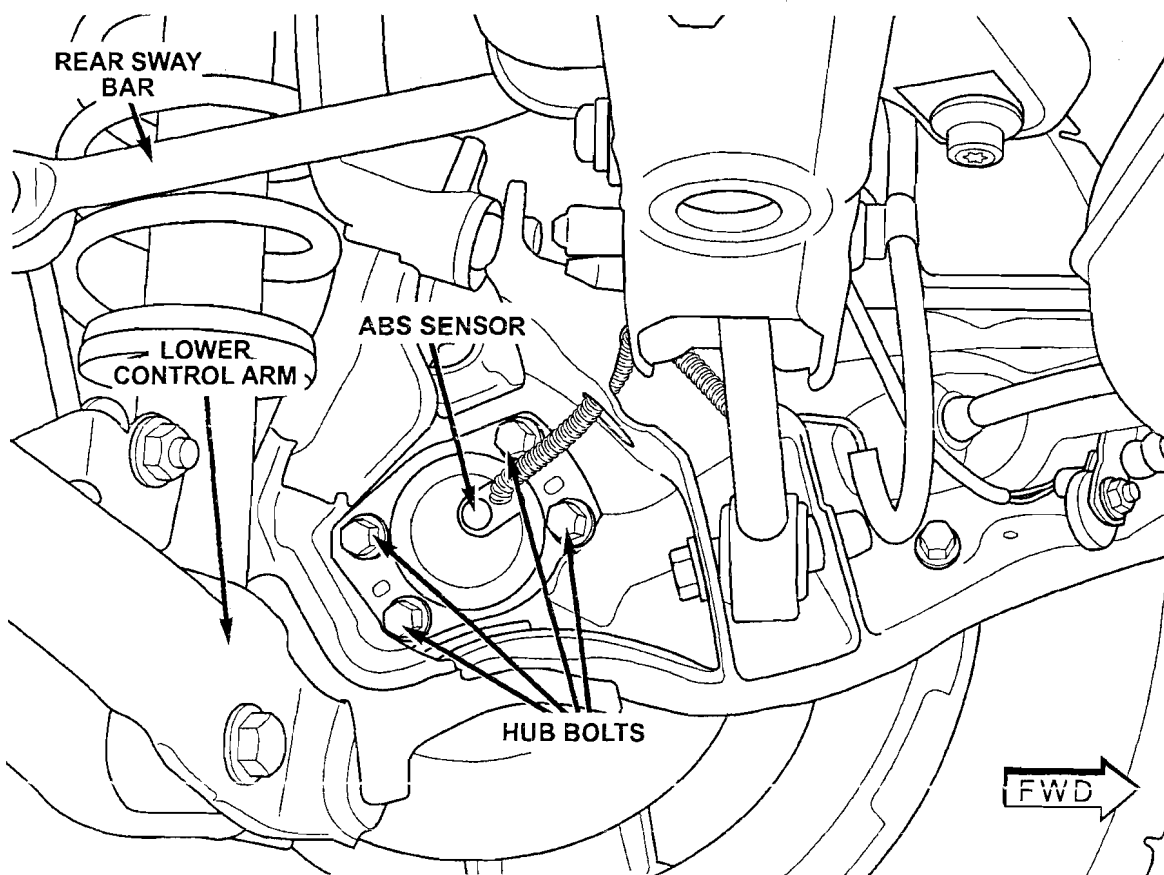

Figure 1 – Left Side Front Wheel Drive Model Shown
2. Remove and replace the four hub bolts on each rear wheel **one hub bolt at a time** (Figure 1). Tighten the new hub bolts to 55 ft. lbs. (75 N·m).